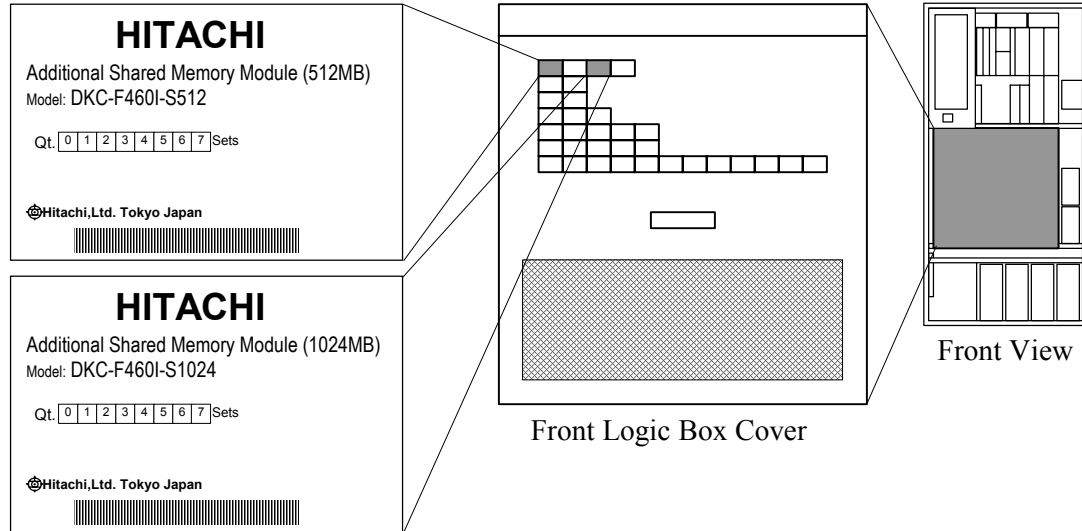

Fig. 3.7.1-7 Location of the Nameplate
- a. Refer to Fig. 3.7.1-7 and Table 3.7.1-10 to paint out unnecessary numbers on the nameplate.